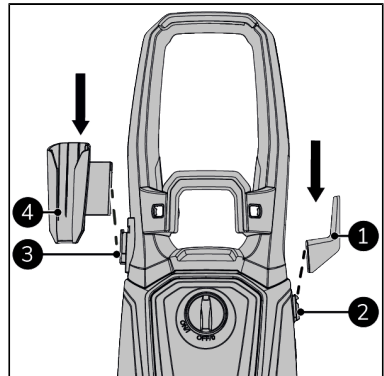

Figure 28.
1. Slide the power cable bracket (Figure 28, pos. 1) onto the main body (Figure 28, pos 2).
3. Slide the jet gun bracket (Figure 28, pos. 4) onto the handle (Figure 28, pos. 3).